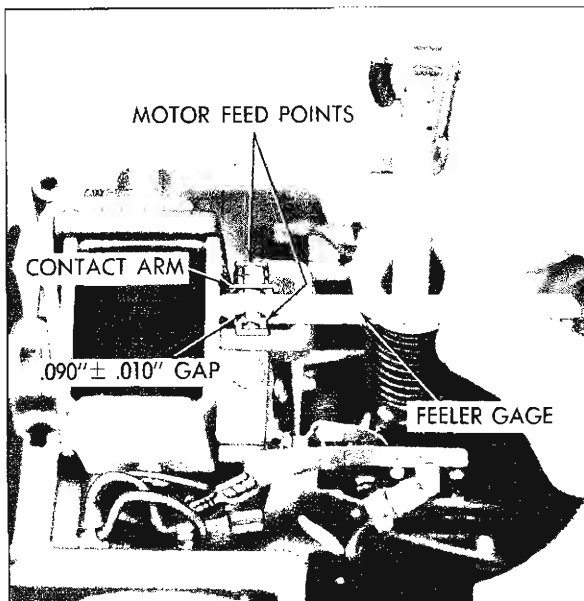

Fig. 74—Motor Feed Points Adjustment
3. Move contact arm against either motor feed point and use a feeler gauge to measure the full gap between contact arm and other point, Figure 74. This gap must be .090 inch  $\pm$  .010 inch. If gap is not within specifications, carefully bend either motor feed point on adjuster assembly until proper gap is obtained.
8. Use a feeler gauge to measure gap between contact arm and either motor feed point on point adjuster assembly. This gap should be approximately one-half of the full gap measurement in Step 3. If gap is not within specifications, contact arm is not centered properly. Loosen screw on point adjuster assembly, Figure 74, and move point adjuster until contact arm is centered between the two motor feed points on point adjuster. Then tighten point adjuster screw and recheck gap.